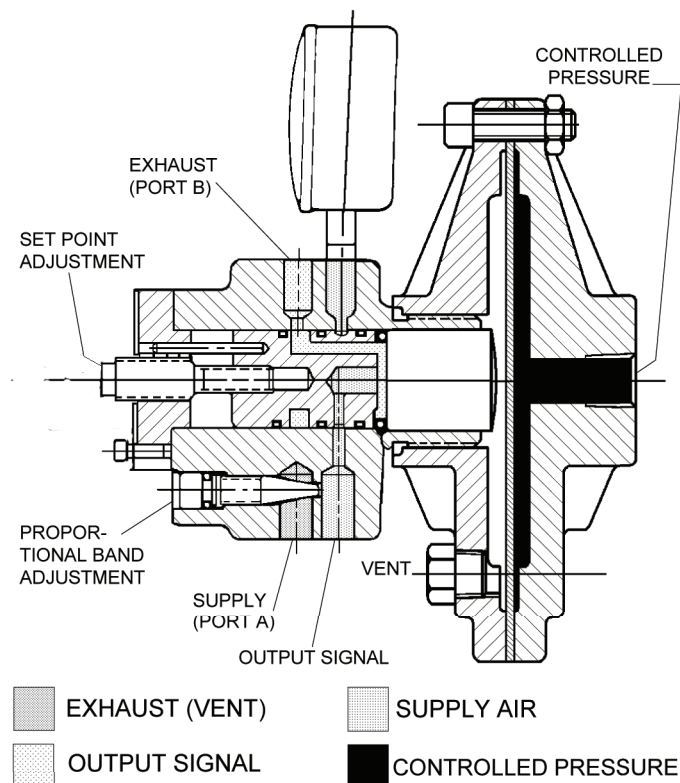

Figure 7
3. On direct acting 764P controllers (see Figure 7) the supply air enters PORT A and passes through the proportional band restriction. With an increase in the controlled pressure the flow through the sensor is reduced which increases the output signal. The proportional band restriction regulates the flow rate of supply air into PORT A. PORT B is the exhaust port. A 764PD operates the same.